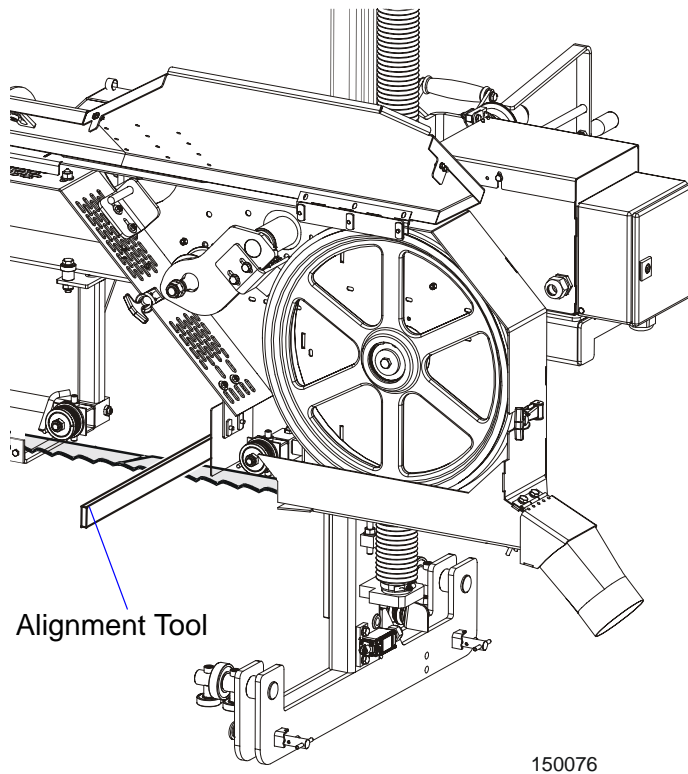

**FIG. 3-5**
- If the two measurements differ by more than 1/16" (1.5 mm), adjust the vertical tilt of the idle-side blade wheel. See Figure 3-5.
**See Figure 3-5.** To tilt the idle-side blade wheel up, loosen the bottom adjustment screw 1/2 turn. Loosen the nut on the top adjustment screw and tighten the screw. Tighten the top and bottom nuts.